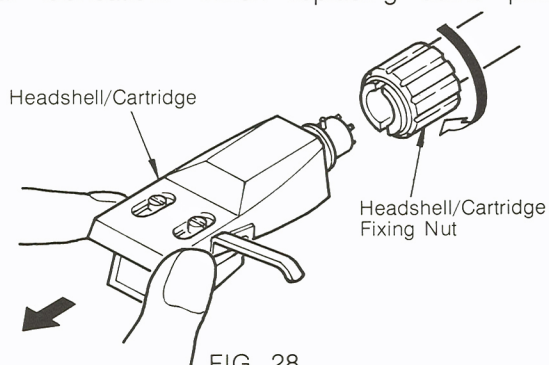

FIG. 28
1. Remove headshell/cartridge fixing nut by turning it clockwise and pull out headshell/cartridge from pickup arm, as shown in Fig. 28.